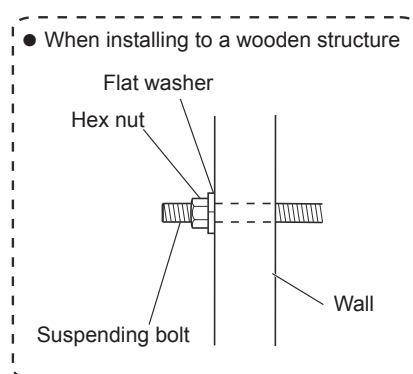

Fig.2
- When installing to a wooden structure, drill a hole in the wall and install the commercially available suspending bolt (M10) with a commercially available flat washer (M10) and hex nut (M10). (Fig.2)